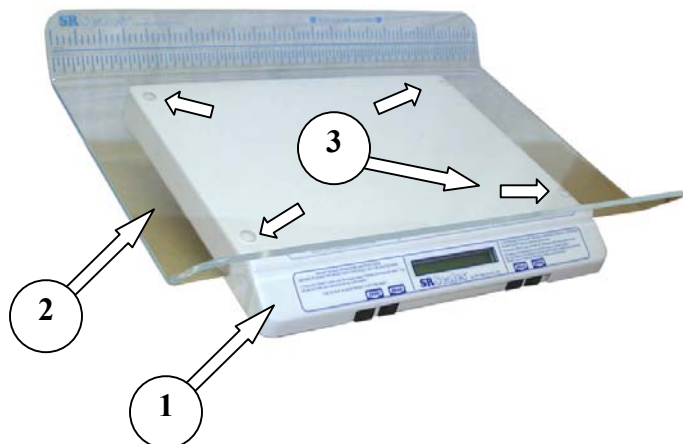

Figure 2: Attachment Screw Locations
STEP 3: (Figure 2) Place the Scale Base Cover (1) on top of the scale base, then place the Clear Acrylic Cradle (2) on top of both pieces. Align the pre-drilled holes of all three parts. Using the four (4) Nylon Screws (3), attach the Clear Acrylic Cradle to the scale base. **Note:** Slightly tighten all four (4) Nylon Screws before securely tightening any one.